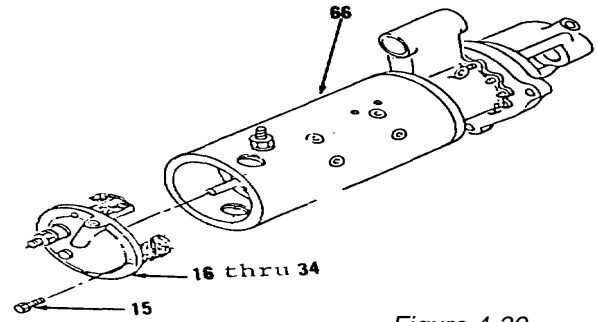
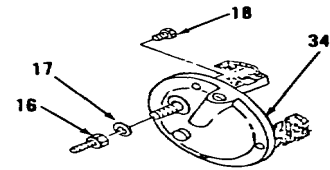
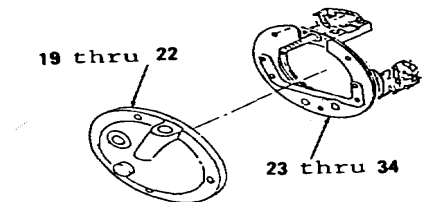

Figure 4-39.
Figure 4-40.
Figure 4-41.
9. Remove four bolts (15, Figure 4-39).
10. Remove items 16 thru 34 as an assembly from housing (66).
11. Remove nut and stud (16) and lockwasher (17) from stud of plate (34, Figure 4-40).
12. Remove screw (18).
13. Remove items 19 thru 22 as an assembly from items 23 thru 34 as an assembly (Figure 4-41).